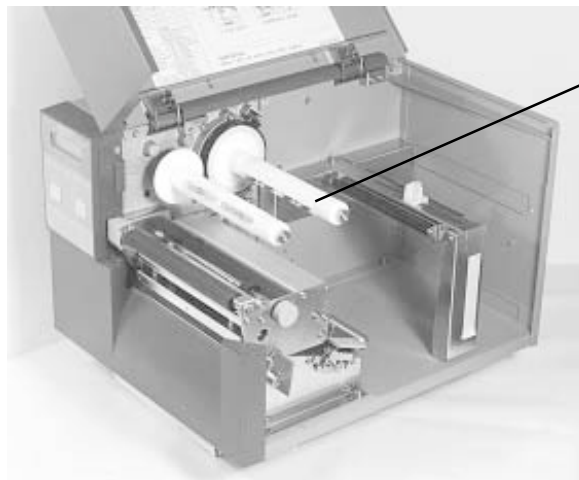

Fig. 6-18
5.	Remove pulley unit from old motor and inspect for wear. Replace if necessary before reinstalling. Fig. 6-18